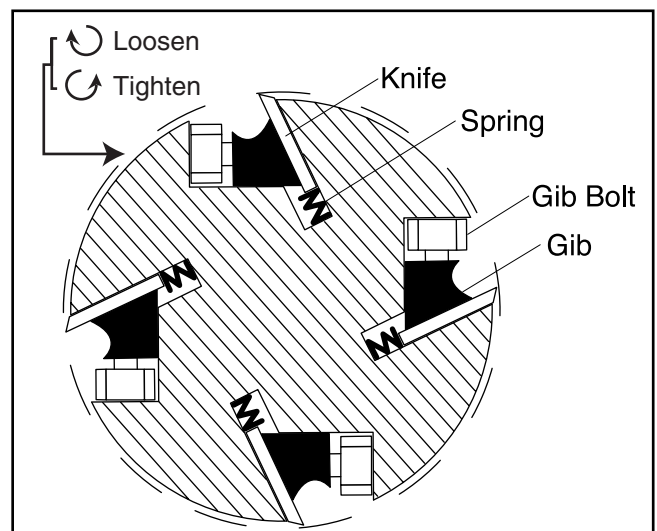

Figure 14. Cutterhead assembly.
1. Loosen the gib bolts until the knife is forced upward by the springs. The gib bolts turn clockwise to loosen and counterclockwise to tighten (when facing the head of the bolt). **See Figure 14.**